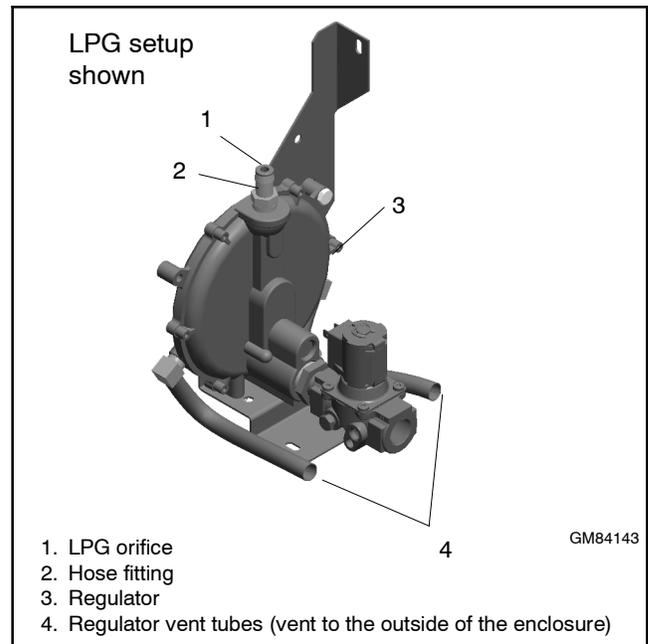

Figure 1-14 Fuel Regulator and LPG Orifice,
For LPG fuel, an orifice is used in the fuel line. The unit is typically shipped set up for natural gas, with the loose orifice tied near the fuel solenoid valve. To convert to LPG, install the LPG orifice as described below. See Figure 1-14 for the fuel system component locations.
5. Remove the hose clamp and fuel hose from the hose fitting. See Figure 1-14.
6. Insert the LPG orifice into the hose fitting. See Figure 1-14.